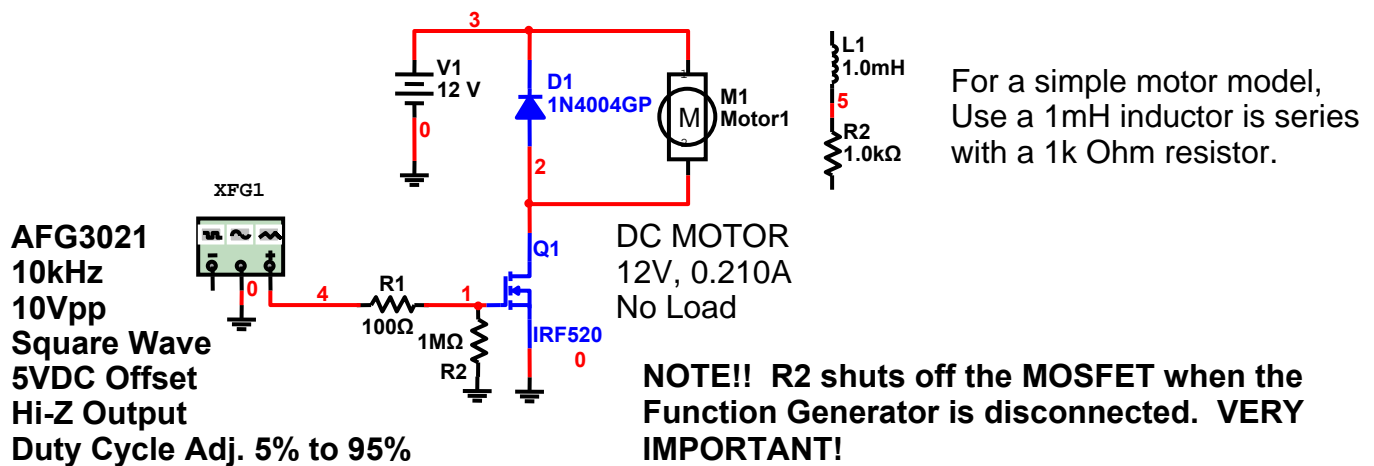

Figure 4-1B.
P1. Read over the lab. SIMULATE the circuit of Fig. 4-1B using Multisim and vary the duty cycle of the control signal from 5 to 95%. Record the waveforms at the gate of the MOSFET (node 1), as well as the voltage at the drain terminal (node 2). Provide simulations for 25%, 50% and 75% duty cycle.
The circuit of Fig. 4-1B shows an IRF520 N-channel power MOSFET used to control the speed of a DC motor. The gate of the MOSFET is being driven by a pulse-width-modulated (PWM) signal to minimize power losses in the circuit.
- L4. Build the circuit of Fig. 4-1B. Connect the function generator to the MOSFET and verify that the motor is spinning. Vary the duty cycle from 5 to 90 percent and confirm that the motor speed varies in proportion to it.